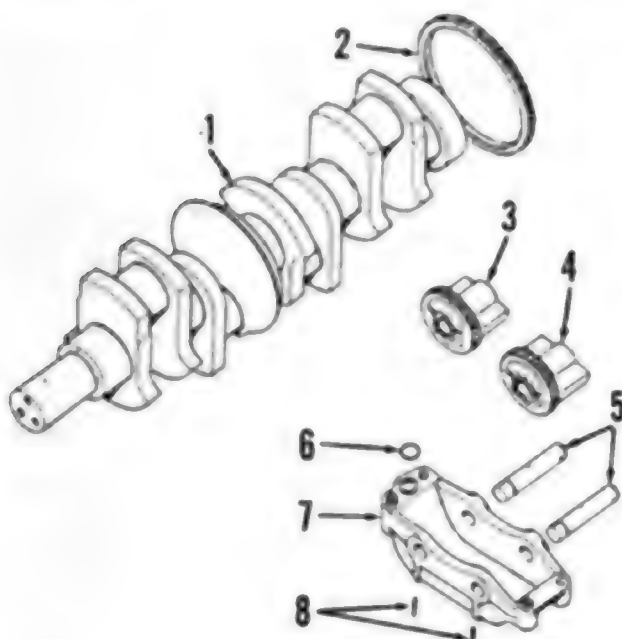

Fig. 43—Exploded view of engine balancer used on all models. Balancer drive gear (2) is a shrink fit on crankshaft.
**48.** D239, D246 and D268 engines are equipped with an engine balancer which is mounted on underside of engine crankcase. Balancers are driven by a renewable gear (2—Fig. 43) which is a shrink fit on crankshaft. The balancer consists of two unbalanced gear weights which rotate in opposite directions at twice crankshaft speed. They produce forces which tend to counteract the vibration which is inherent in four cylinder engines having a single plane
To disassemble the balancer unit, drive roll pins (8—Fig. 43) out of housing and into weight shafts (5). Press or bump shafts out roll pin side of housing (7) and lift out weight gear assemblies (3 and 4). Drive roll pins (8) out of shafts.
To install the balancer assembly, first rotate crankshaft to position No. 2 piston at TDC of compression stroke. Place new "O" ring (6 - Fig. 43) in recess on balancer. Then, with weights toward bottom of balancer housing and weight gear timing marks aligned, install balancer so that timing mark on drive weight is aligned with timing mark on balancer drive gear (2). Using a new "O" ring, install oil suction tube assembly. Using a dial indicator, check backlash between balancer drive weight gear (4) and balancer drive gear (2). Backlash should be 0.010-0.016 inch.
**NOTE:** When backlash between weight gears (3 and 4) is correct (0.007-0.009 inch) and backlash between balancer drive gear (2) and drive weight gear exceeds 0.016 inch, balancer drive gear (2) is excessively worn and should be renewed. Refer to paragraph 50.
**50. RENEW BALANCER DRIVE GEAR.** To renew balancer drive gear (2 - Fig. 43), first remove crankshaft from engine. Remove worn or damaged drive gear by using a chisel and hammer and splitting the gear. Remove any burrs which might be present on gear mounting surface of crankshaft. Heat new gear to 360-390 degrees F., align the single mark (below tooth space of the drive gear) with the notch on the crankshaft flange and slide drive gear on crankshaft. The two marked teeth on drive gear should be toward flywheel end of crankshaft.